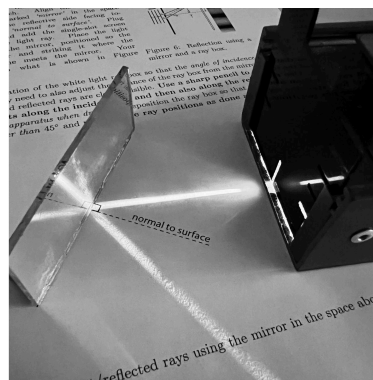
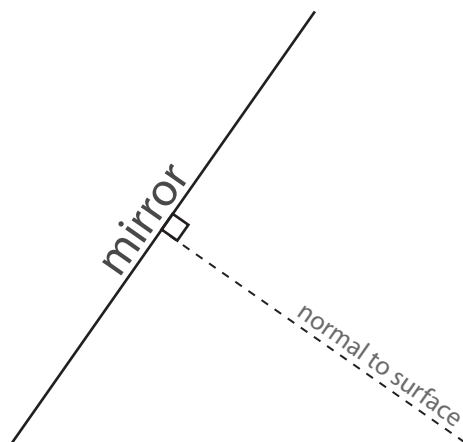

Figure 5: Reflection from a mirror.
Figure 6: Draw labeled incident/reflected rays using the mirror in the space above.
1. **Fold your lab manual** so that this single page lies as flat as possible on the bench; you may use the 500g mass to help keep it flat/in place. **Align the small rectangular mirror with the line marked 'mirror'** in the space provided in Figure 6, with the reflective side facing toward the dashed line marked '*normal to surface*'. **Plug in the white light ray box** and **add the single-slot screen to the front to create a single, well collimated light ray**. Position the light box a few inches away from the mirror such that the light ray is incident on the mirror & strikes it where the dashed '*normal to surface*' line meets the mirror. **Orient the white light ray box** such that the *angle of incidence* is roughly 30° and the *reflection* is centered about the *normal to surface* (you may need to adjust the distance of the ray box from the mirror to ensure that BOTH the *incident* and *reflected* rays are clearly visible). Your setup should look similar to what is shown in Figure 5.